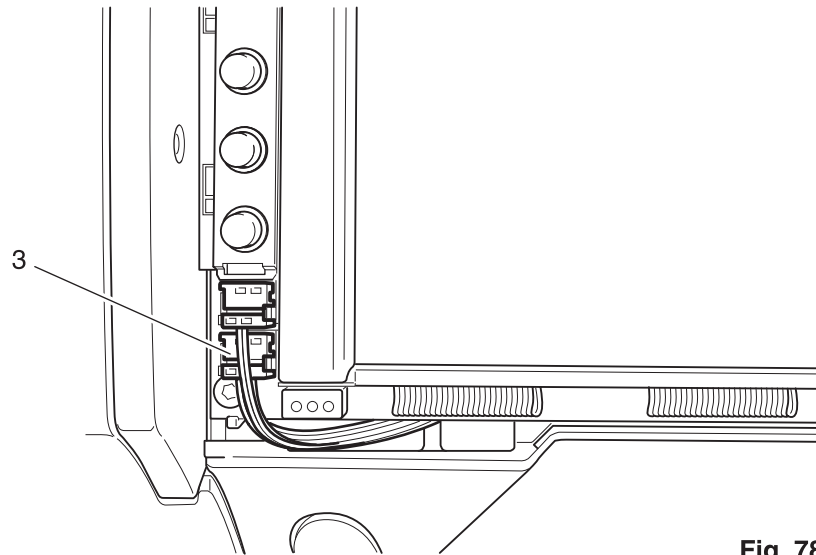

Fig. 78
- Remove connection plug 3 from the circuit board on the front housing panel (fig. 78).
- Mount connection plug 3 onto the circuit board on the front housing panel (fig. 78).